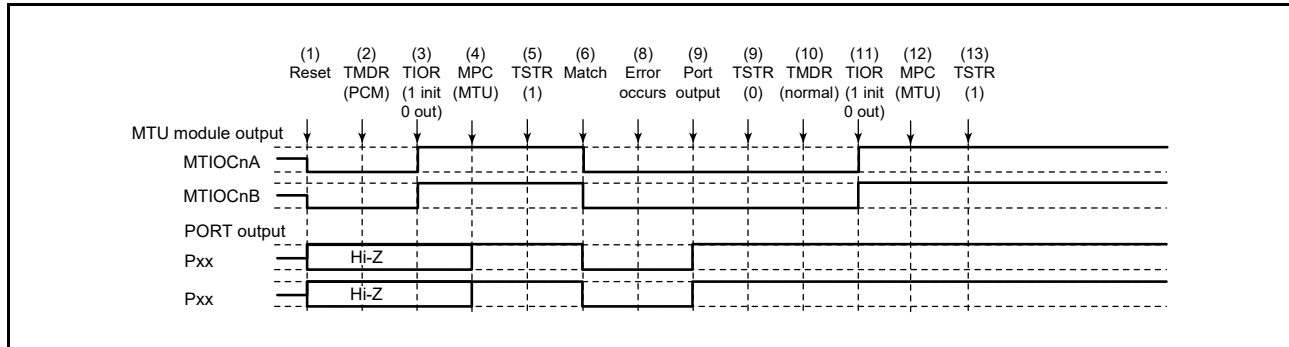

**Figure 19.159 Error Occurrence in Phase Counting Mode, Recovery in Normal Mode**
Figure 19.159 shows a case in which an error occurs in phase counting mode and operation is restarted in normal mode after re-setting.
(1) to (9) are the same as in Figure 19.159.
(10) Set PWM mode 1.
(11) Initialize the pins with the TIOR register. (In PWM mode 1, waveforms are not output to the MTIOCnB (MTIOCnD) pins. To output a specified level, make necessary settings for general output ports in the port direction registers (PDR) and port output data registers (PODR) of the I/O ports.)
(12) Set MTU output using the MPC and port mode registers (PMR) corresponding to the I/O ports.
(13) Restart operation by setting the TSTR register.
(10) Set PWM mode 2.
(11) Initialize the pins with the TIOR register. (In PWM mode 2, a waveform is not output to the pin that corresponds to the TGR register used as a period register. To output a specified level, make necessary settings for general output ports in the port direction registers (PDR) and port output data registers (PODR) of the I/O ports.)
(10) This step is not necessary when restarting in phase counting mode.
(11) Initialize the pins with the TIOR register.